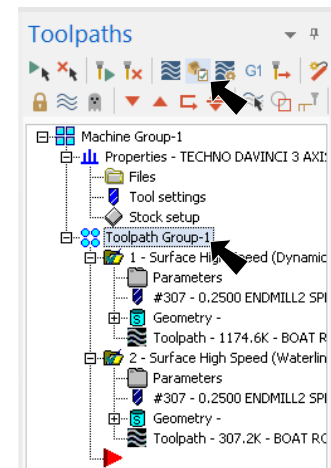

Fig. 33
Step 2. Click the **Toolpath Group-1** to select **both** toolpaths, Fig. 33.
Step 3. Click **Verify**  in the Toolpaths Manager, Fig. 33.
Step 4. Click **Play**  (R) in VCR bar.